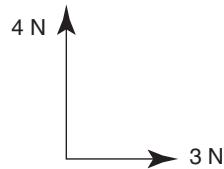

Figure 3.30
8. The magnitude of the resultant of the vectors shown in Figure 3.30 is: